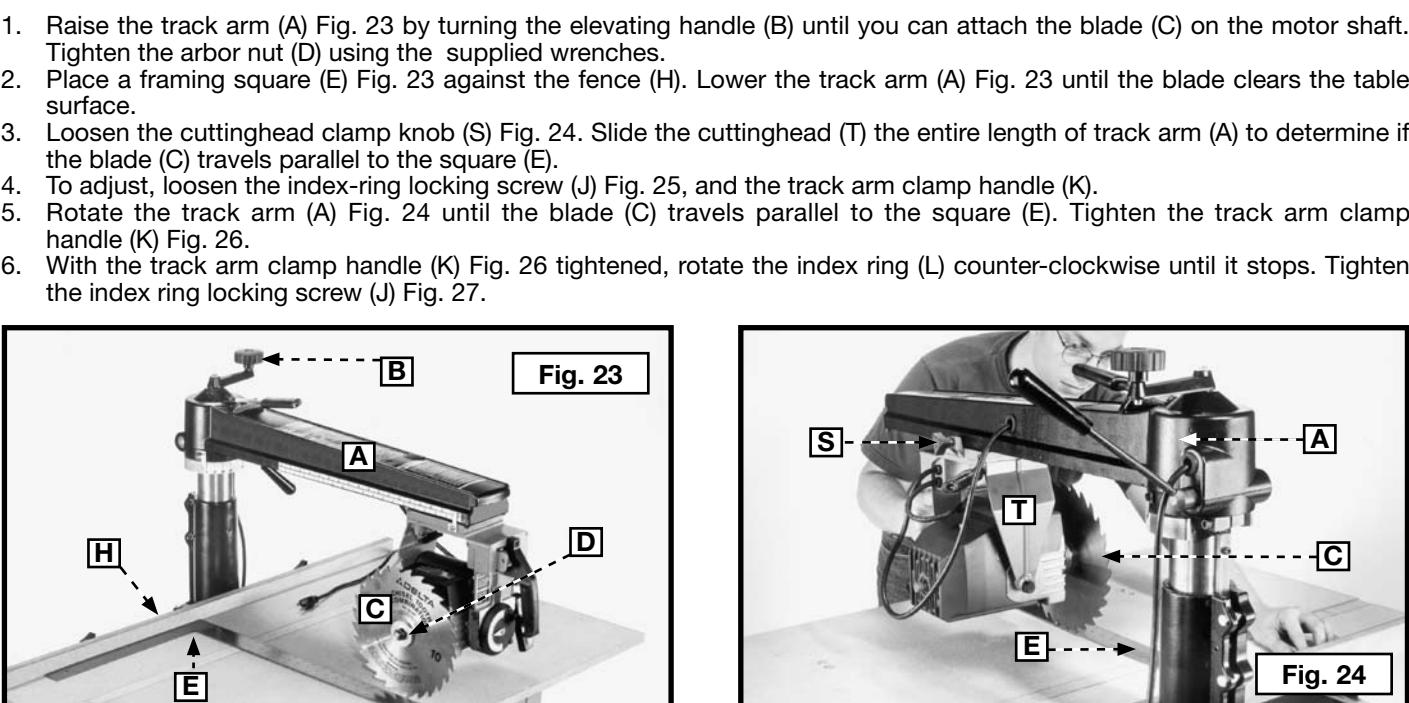

Fig. 25
- To adjust, loosen the index-ring locking screw (J) Fig. 25, and the track arm clamp handle (K).